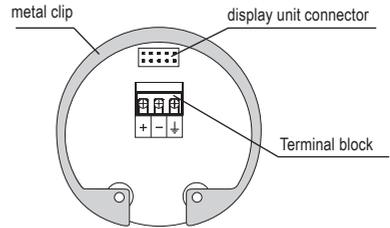

Fig. 17: Inside view of screw terminals of the level meter with current output ULM-70_--_I
5. Connect the cable to the screw terminals according to the diagram in Fig. 17 or 18. Firmly tighten the terminals and the cable outlet.